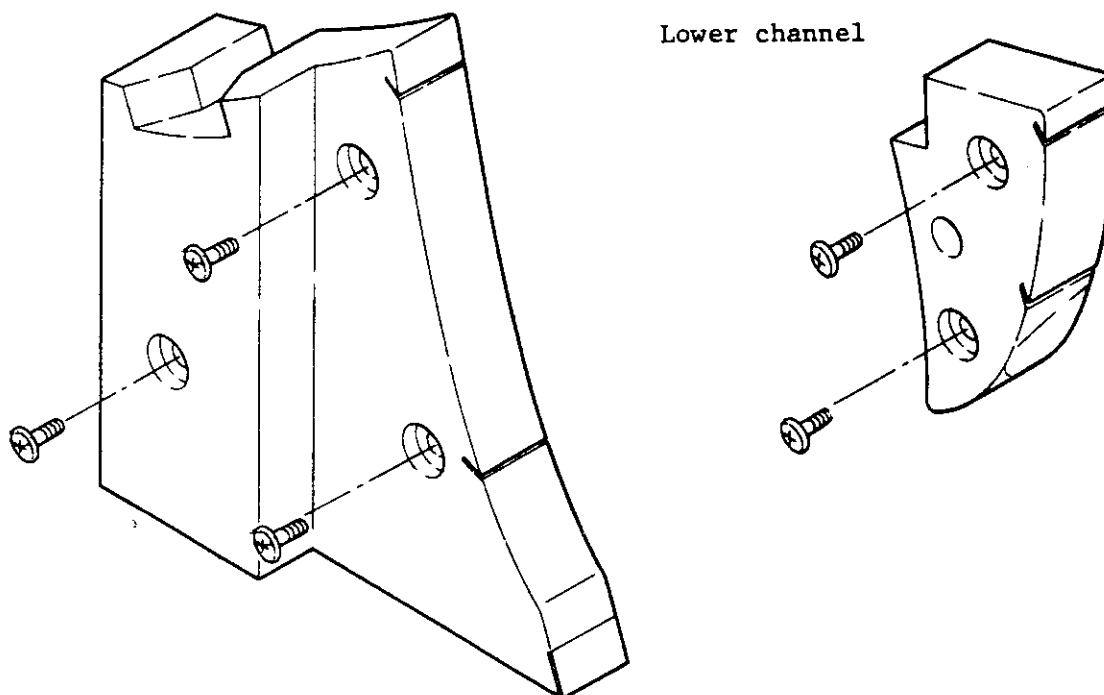

Figure L.2 Upper and lower threading channels
- (1) Remove the thread cover per L0410.
- (2) Open the column cover and threading cover to gain access to the upper and lower threading channels shown in Figure L.2.
- (3) Remove three screws and the upper channel.
- (4) Remove two screws and the lower channel.